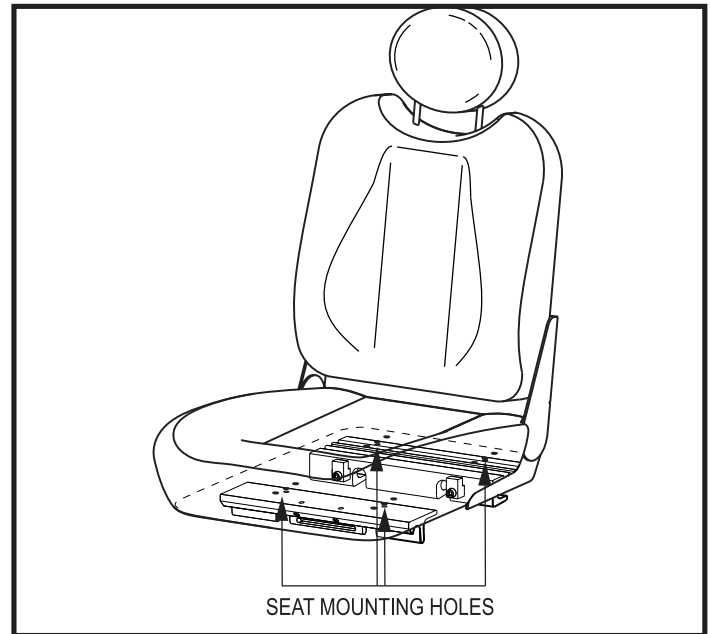

Figure 17. Seat Position Adjustment
4. Remove both extrusions from the bottom of the seat. See figure 17.
5. Reposition the extrusions on a different set of mounting holes. You must move both extrusions the same number of holes either forward or rearward. See figure 17.